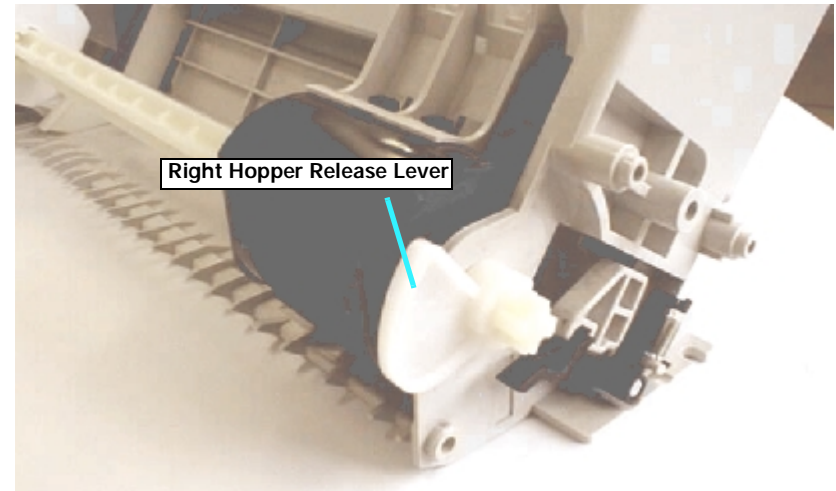

Figure 4-31. Hopper Release Lever Installation Direction
- Be careful of the direction of the Hopper Release Lever when installing it. (Refer to Figure 4-31.)
- When installing the right and left LD Roller Fixing Bushings, make sure the bushings are firmly installed and do not slip off. Also, make sure the Black LD Roller Assembly goes on the right side of the shaft. (Refer to Figure 4-31 below.)